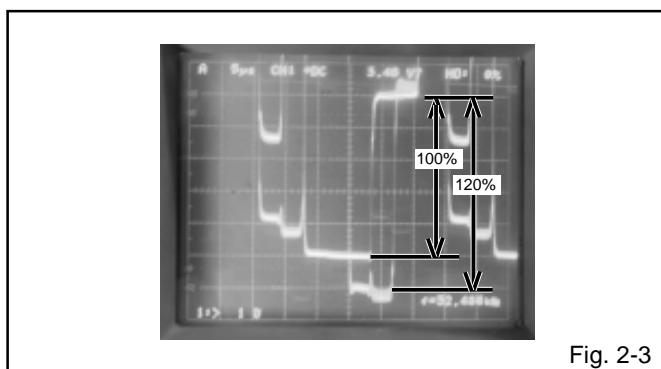

Fig. 2-3
7. Press the VOL. UP/DOWN button on the remote control until the red color level is adjusted to  $105 \pm 10\%$  of the white level. (**Refer to Fig. 2-3**)